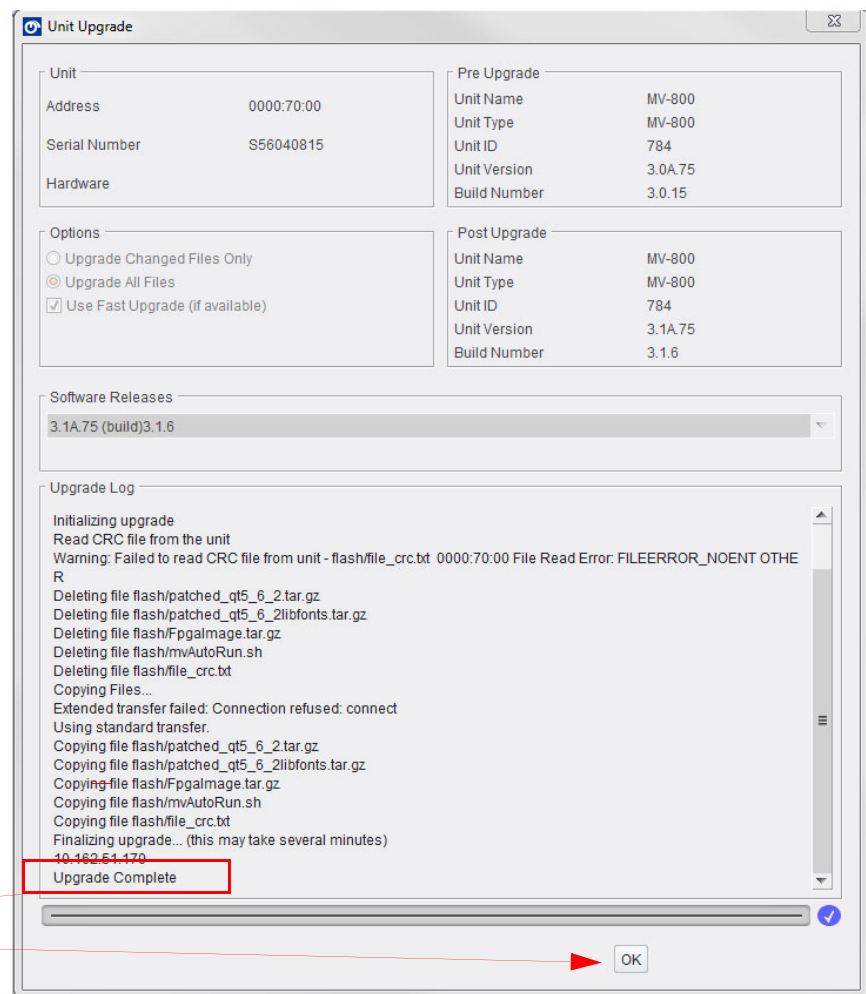

Fig. 10-14: Typical Upgrade Log Messages - Upgrade Complete
- 11 An 'Upgrade Complete' message finally appears in the Update Log pane of RollCall Control Panel when the upgrade is done. See Figure 10-14 for typical **Update Log** messages.